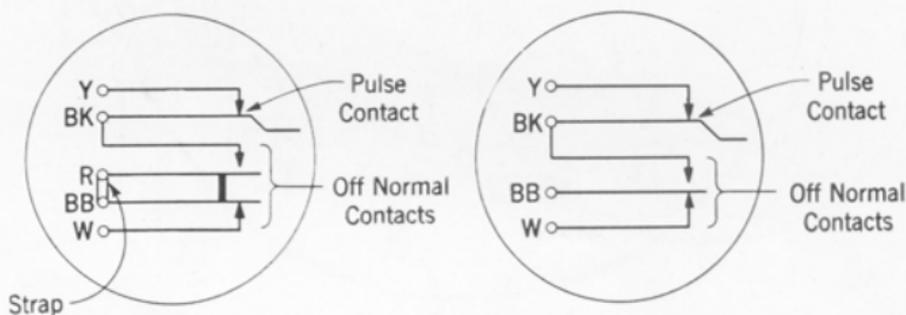

Fig. 9—Use of Dial Strap
12.01 When 4-, 5-, or 6-type dials are used in station circuits where the "R" spring is not normally required, it is necessary to strap dial terminals "R" and "BB" with P-290076 dial strap as indicated in Fig. 9, left-hand view.